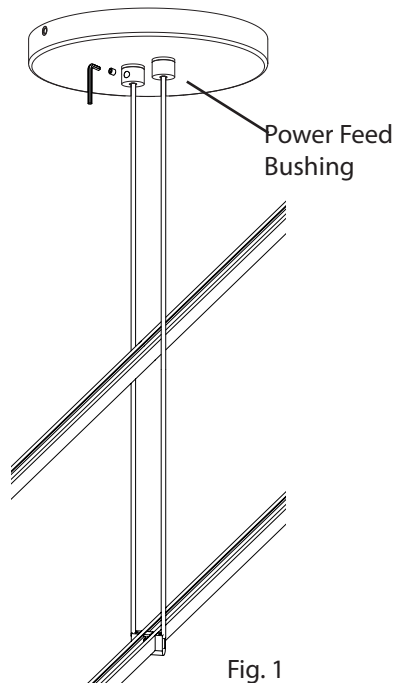

Fig. 1
1. Install **Double Cord Power Feed Hanger** to **Lower Power Bar** and connect to the **Power Feed** by inserting the exposed wires into the **Power Feed Bushings**. Secure by tightening the **Set Screws** with the included **Allen Key** (Fig. 1).